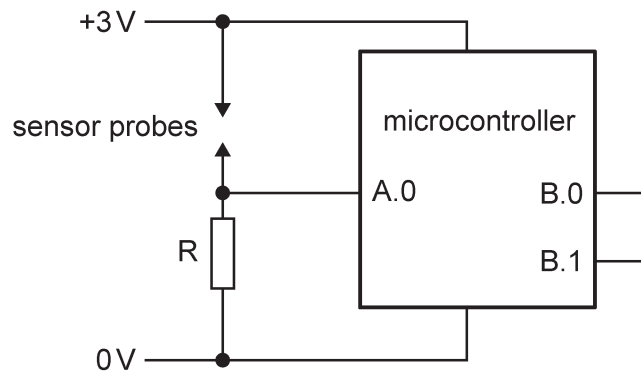

Fig. 4.3
- (ii) Fig. 4.3 shows the sensor circuit for the electronic pen.
A minimum voltage of 2 V is required at the microcontroller analogue input A.0 in Fig. 4.3 when the sensor probes are touching a conductive ink disk.
Using your answer to **part (b)(i)**, calculate the minimum value of resistor R required in Fig. 4.3. Give your answer in Ω . Show your working.
- (iii) State, without calculation, the value of the voltage at the analogue input A.0 in Fig. 4.3 when the sensor probes are touching a non-conductive ink disk.